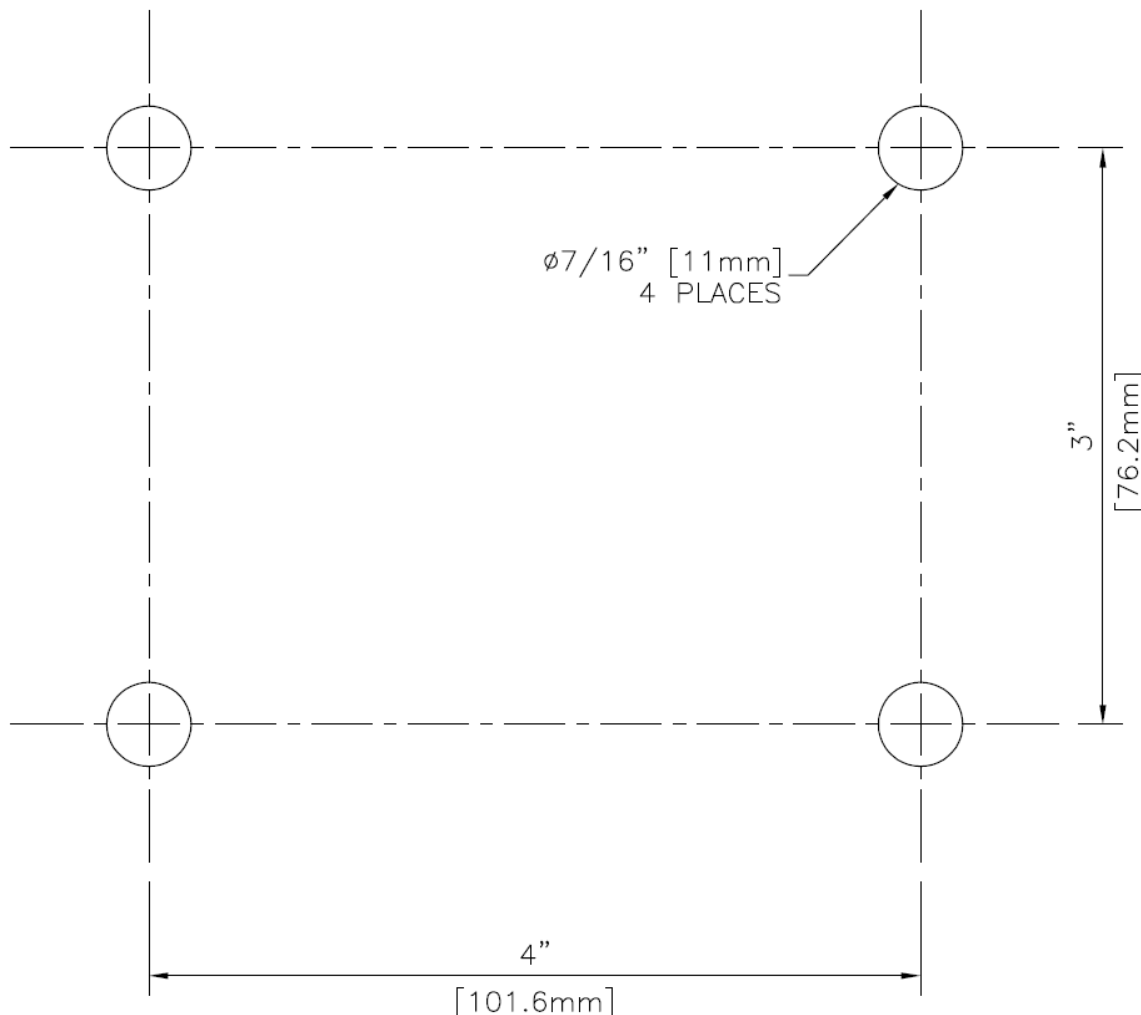
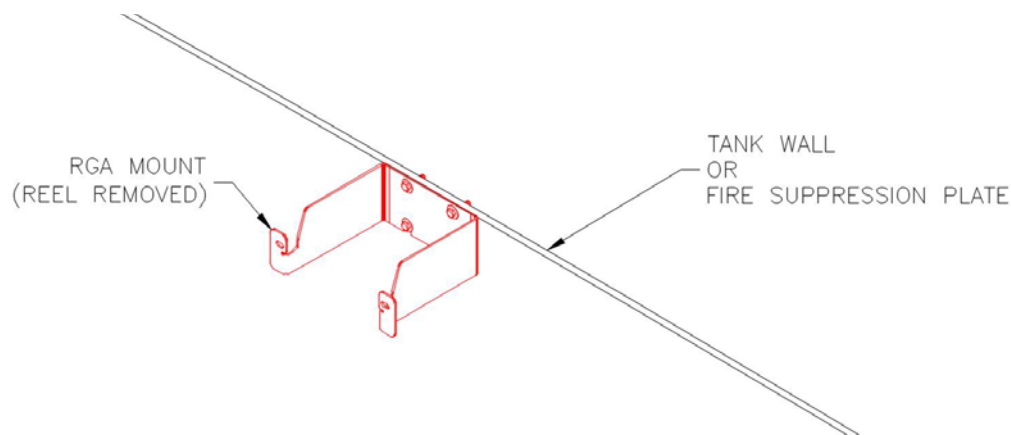

Figure 3: RGA Mount – Hole Dimensions
Figure 4: Mounting the RGA Mount to the Tank Wall
Mounting the RGA directly to the Tank Wall – Create four (4) 7/16 in. [11mm] diameter holes in the tank wall according to Figure 3 below, RGA Mount – Hole Dimensions. Scrape paint and rust from around the drilled holes and under the RGA Mount to bare metal. Apply Lectra Shield to both sides of the holes and all bare metal surfaces to prevent rusting. Using the supplied hardware, secure the RGA Mount and Reel assembly to the tank wall and apply Lectra Shield to the hardware after assembly. Alternately, the RGA Reel may first be separated from the Mount by removing the 3/8” bolts on either side of the Reel and the Mount may be attached to the tank wall separately from the Reel; see Figure 4, Mounting the RGA Mount to the Tank Wall.